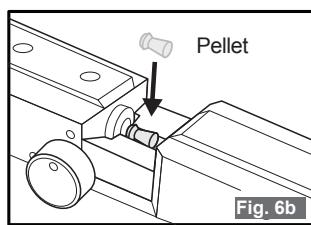

Fig. 6b
- Lay a pellet of appropriate caliber in the pellet tray. (Fig. 6b)